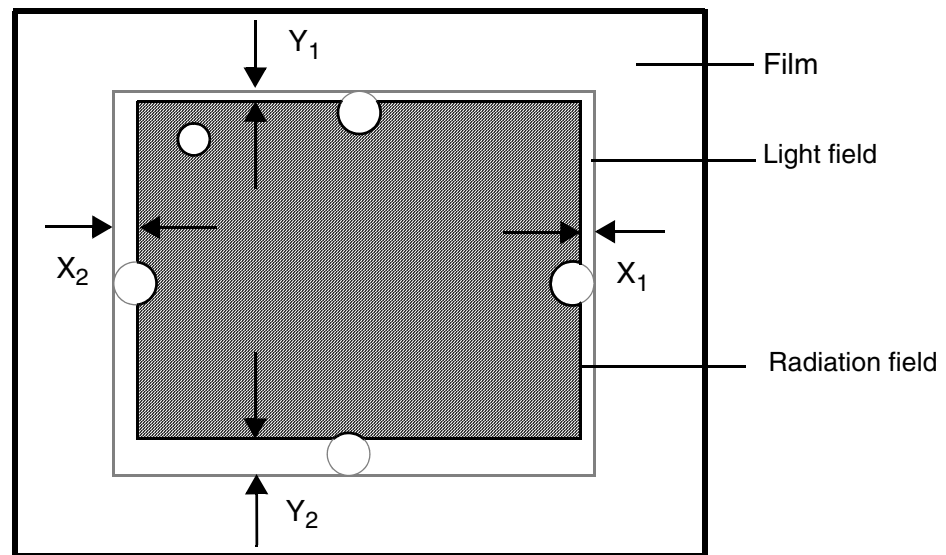

Fig. 4
- Measure the deviations between light field edges and radiation field edges on all four sides (X1, X2, Y1, Y2) as shown in Fig. 4.